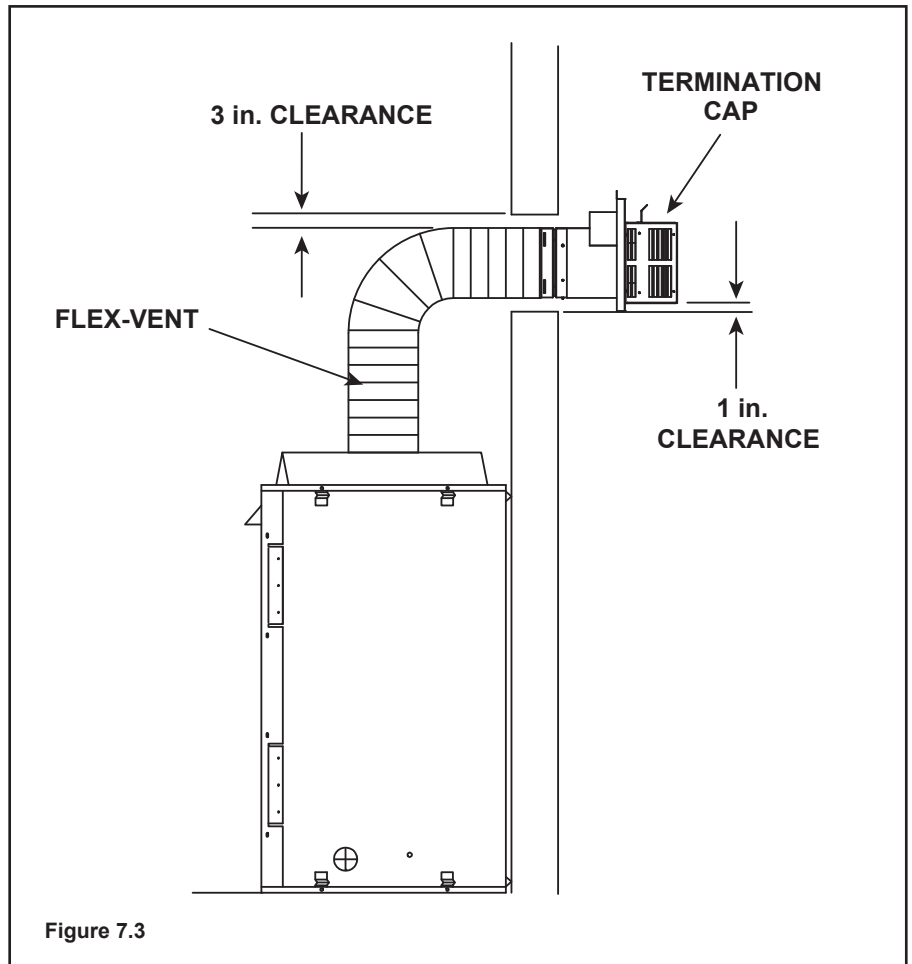

Figure 7.3
**Note:** There MUST be a 25% reduction in total H when using flex vent except when using the simple up and out installation (see Figure 7.3).
**Note:** There **MUST** be a 25% reduction in total H when using flex vent except when using the simple up and out installation (see Figure 7.3).